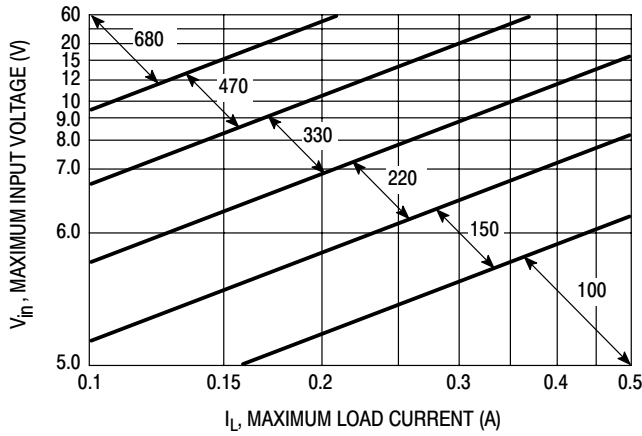
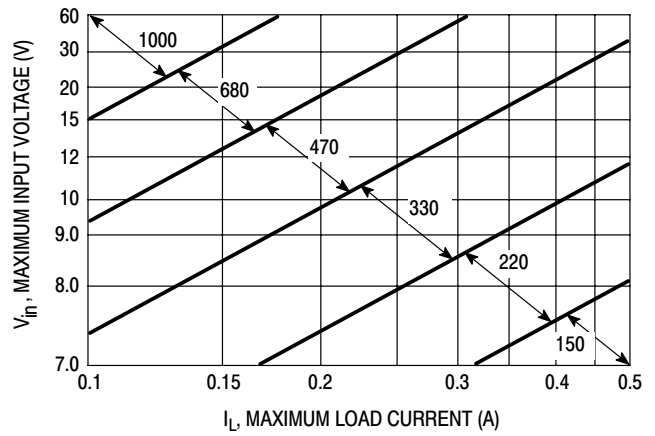

Figure 19. LM2574-3.3
Figure 20. LM2574-5
4. Inductor Selection (L1) A. According to the required working conditions, select the correct inductor value using the selection guide from Figures 19 to 23. B. From the appropriate inductor selection guide, identify the inductance region intersected by the Maximum Input Voltage line and the Maximum Load Current line. Each region is identified by an inductance value and an inductor code. C. Select an appropriate inductor from the several different manufacturers part numbers listed in Table 2. The designer must realize that the inductor current rating must be higher than the maximum peak current flowing through the inductor. This maximum peak current can be calculated as follows: $I_{p(max)} = I_{Load(max)} + \frac{(V_{in} - V_{out})t_{on}}{2L}$ where $t_{on}$ is the “on” time of the power switch and $t_{on} = \frac{V_{out}}{V_{in}} \times \frac{1.0}{f_{osc}}$ For additional information about the inductor, see the inductor section in the “EXTERNAL COMPONENTS” section of this data sheet.	4. Inductor Selection (L1) A. Use the inductor selection guide shown in Figure 20.  B. From the selection guide, the inductance area intersected by the 15 V line and 0.4 A line is 330.  C. Inductor value required is 330 $\mu\text{H}$ . From Table 2, choose an inductor from any of the listed manufacturers.
To simplify the inductor selection process, an inductor selection guide for the LM2574 regulator was added to this data sheet (Figures 19 through 23). This guide assumes that the regulator is operating in the continuous mode, and selects an inductor that will allow a peak-to-peak inductor ripple current to be a certain percentage of the maximum design load current. This percentage is allowed to change as different design load currents are selected. For light loads (less than approximately 0.2 A) it may be desirable to operate the regulator in the discontinuous mode, because the inductor value and size can be kept relatively low. Consequently, the percentage of inductor peak-to-peak